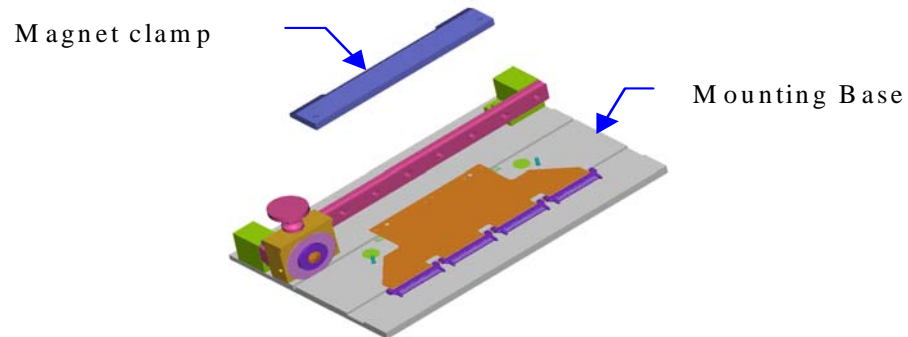

Figure 4: Placing the clamp
- 7.1.2 Blow out the dust on the fixture. (See Figure 4)
- 7.1.3 Remove flex holding bar. (See Figure 4)